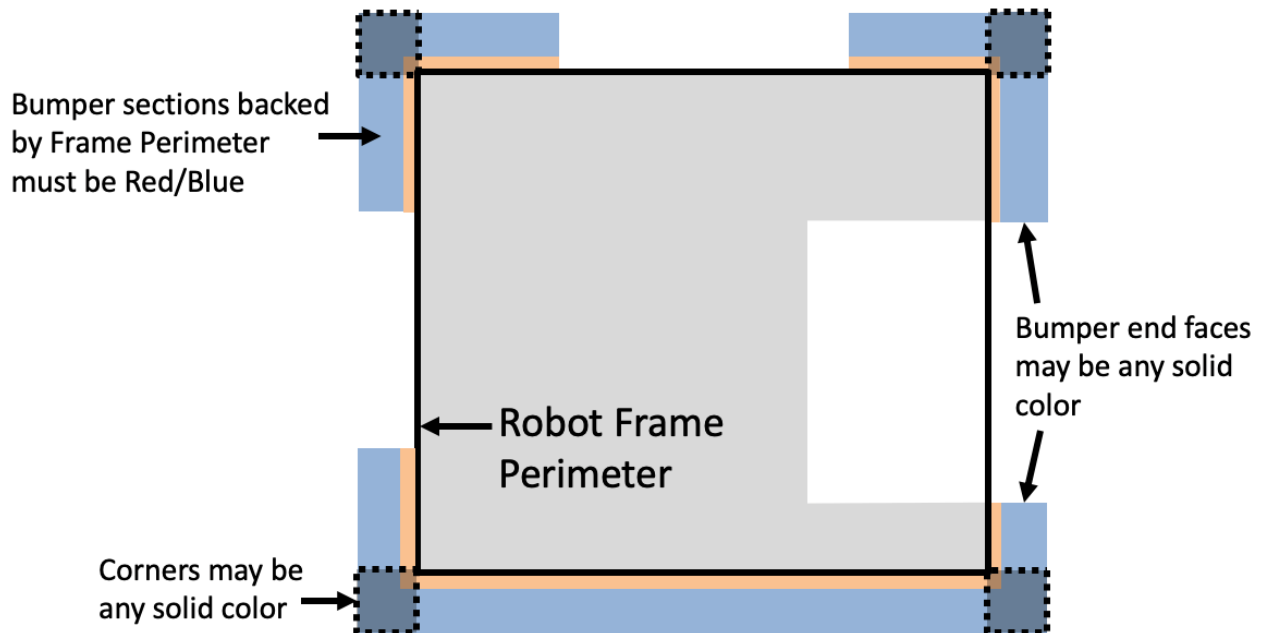

Figure 9-4 BUMPER color example
- R21.** Each ROBOT must be able to display primarily Red or Blue BUMPERS to MATCH their ALLIANCE color, as assigned in the MATCH schedule distributed at the event (as described in MATCH Schedules). A BUMPER is considered primarily Red or Blue if all displayed BUMPER surfaces other than corners (i.e. everywhere the BUMPER is backed by the FRAME PERIMETER) displays the appropriate color. Any visible fabric other than the primary color must be a solid color. See Figure 9-4. BUMPER Markings visible when installed on the ROBOT, other than the following, are prohibited:
BUMPER corners and “ends”, shown in Figure 9-4, must be solid in color, but do not need to be the same color as the rest of the BUMPER, as described in R21.